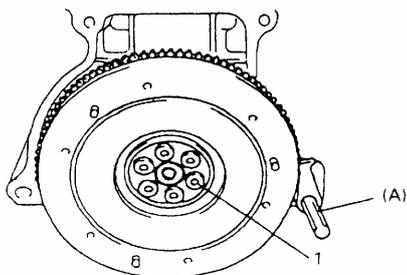

Fig. 4-139
1) Disassemble clutch pressure plate, disc and flywheel as shown in Fig.4-139.